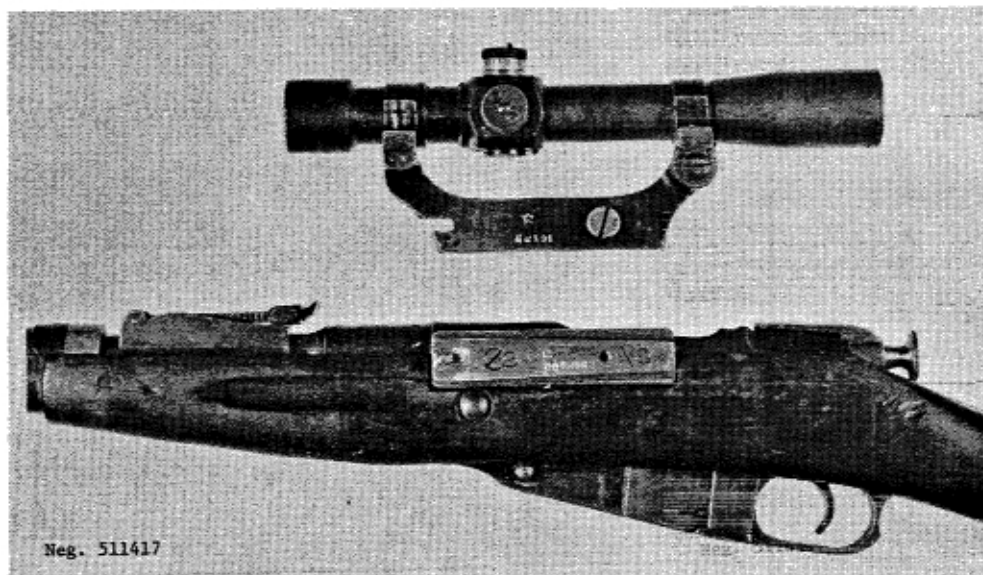

Figure 118. Model 1891/30 sniper's rifle w/PE telescope.
b. These rifles can be fitted with the 3.5-power PU telescope or the 4-power PE telescope (fig 118). The PU is the more common telescope. These telescopes have large pointed post reticles and rather coarse adjustments.
c. The PE telescope can be adjusted for windage zero by means of the screw in the rear mount (fig 118).